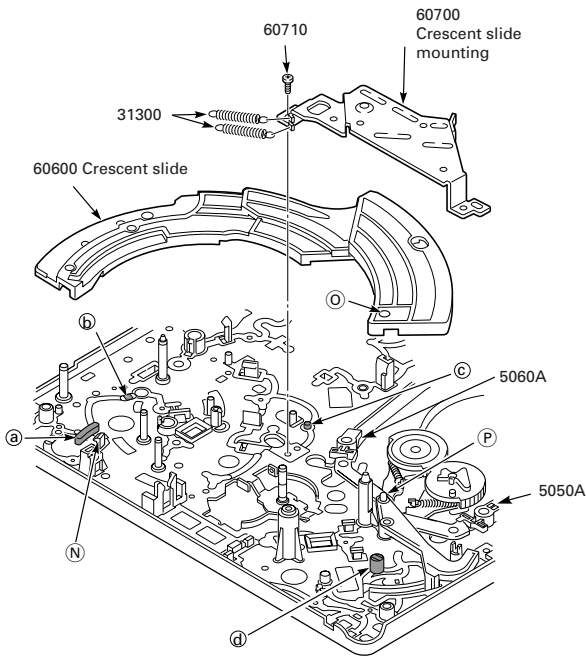
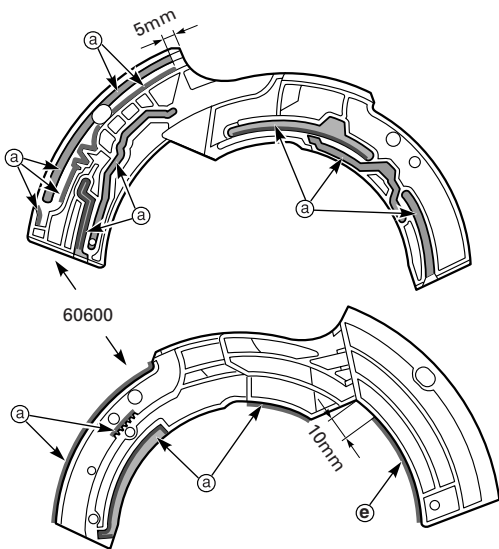

Fig. 8.23
Fig. 8.24
- Undo screw (60710) and remove the crescent slide mounting (Pos. 60700, Fig. 8.23).
- Disengage the clamp (N) and remove the crescent slide (60600, Fig. 8.23).
**Note:** Before reassembling the crescent slide (60600) the threading roller units (5050A and 5060A) are to be positioned so that they are in **Eject** mode (Fig. 8.23). When fitting it, lift the right side of the crescent slide (60600) slightly, insert the left side into the clamp (N) first, and align the hole (O) with the pin (P) of the tension arm (40400).
- For lubricating the crescent slide (60600) use exclusively the lubricant **75988 061 7800** for the lubricating points (a), (b), (c), (d) in Fig. 8.23 and (e) in Fig. 8.24. For the lubricating point (e) in Fig. 8.24 use the lubricant **75988 061 8000**.